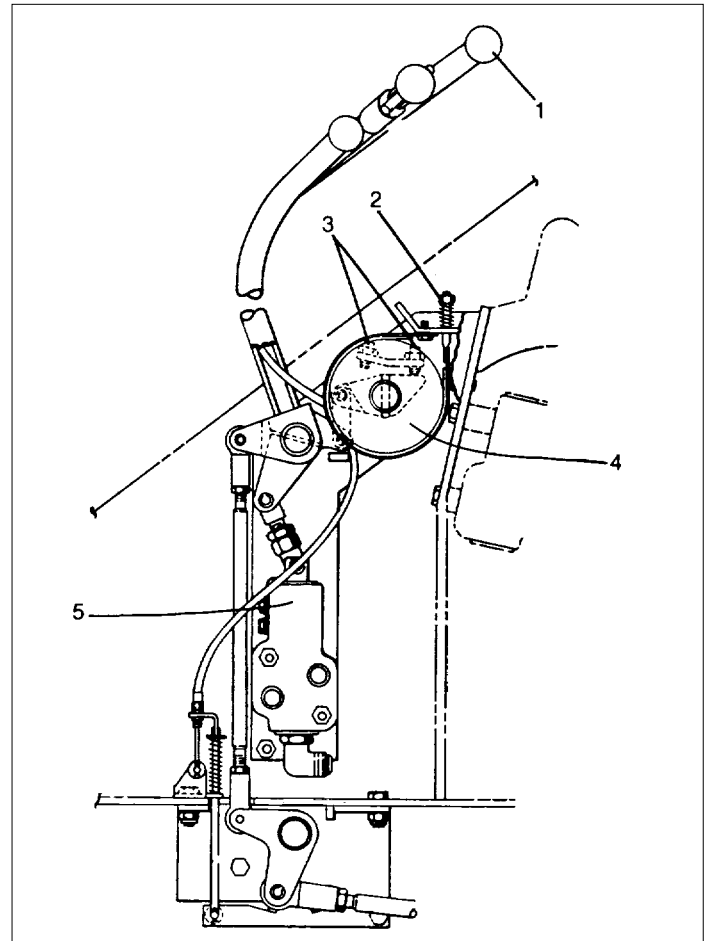

Fig. 2
2.3 Swing Brake Control Adjustment (Refer to Fig. 2)